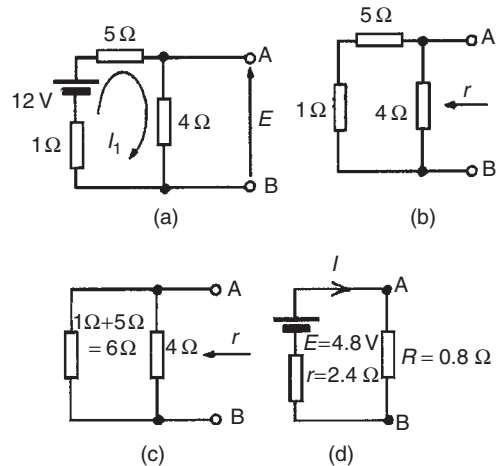

Figure 13.40
- (i) The 0.8Ω resistor is removed from the circuit as shown in Fig. 13.40(a).
P.d. across 4Ω resistor $= 4I_1 = (4)(1.2) = 4.8 \text{ V}$. Hence p.d. across AB, i.e. the open-circuit voltage across AB, $E = 4.8 \text{ V}$
- (iii) Removing the source of e.m.f. gives the circuit shown in Fig. 13.40(b). The equivalent circuit of Fig. 13.40(b) is shown in Fig. 13.40(c), from which, resistance
- (iv) The equivalent Thévenin's circuit is shown in Fig. 13.40(d), from which, current